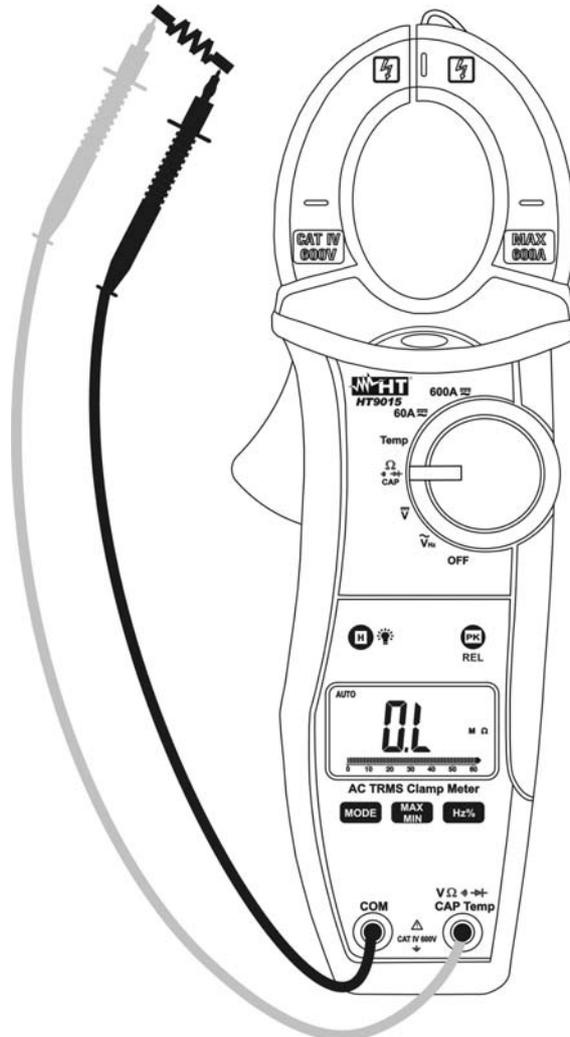

Fig. 9: Taking Resistance measurement
2. Insert the red test lead plug into **V $\Omega \cdot \text{CAP}$ Hz % Temp** jack and the black test lead plug into **COM** jack (Fig. 9)